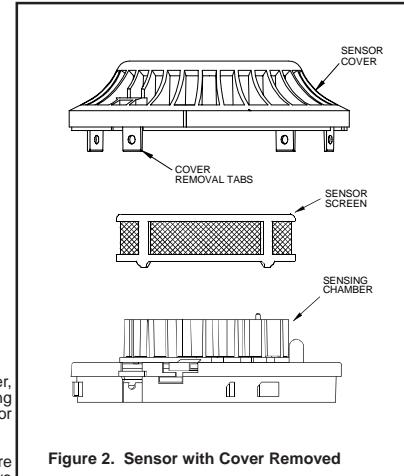

Figure 2. Sensor with Cover Removed
2. Remove the sensor cover. Use a small flat blade screwdriver to gently release each of the four cover removal tabs that hold the cover in place (see Figure 2).